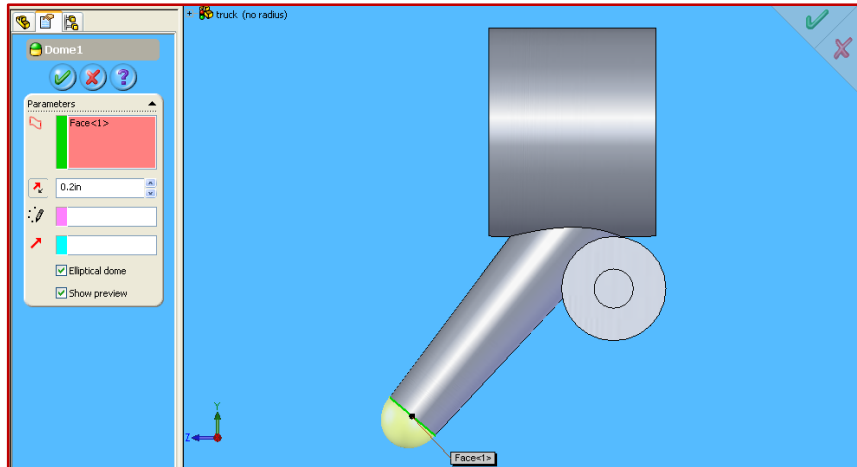

Figure 7.7 – Pivot Dome
- ✓ Click **Insert** → **Features** → **Dome**. The radius is 0.20 inch. See Figure 7.7.